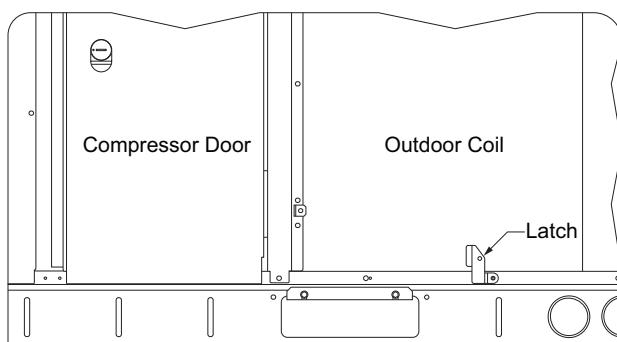

**Fig. 13 — Economizer Filter Installation**
5. Open the filter clips which are located underneath the hood top. Insert the aluminum filter into the bottom filter rack (hood divider). Push the filter into position past the open filter clips. Close the filter clips to lock the filter into place. See Fig. 13.